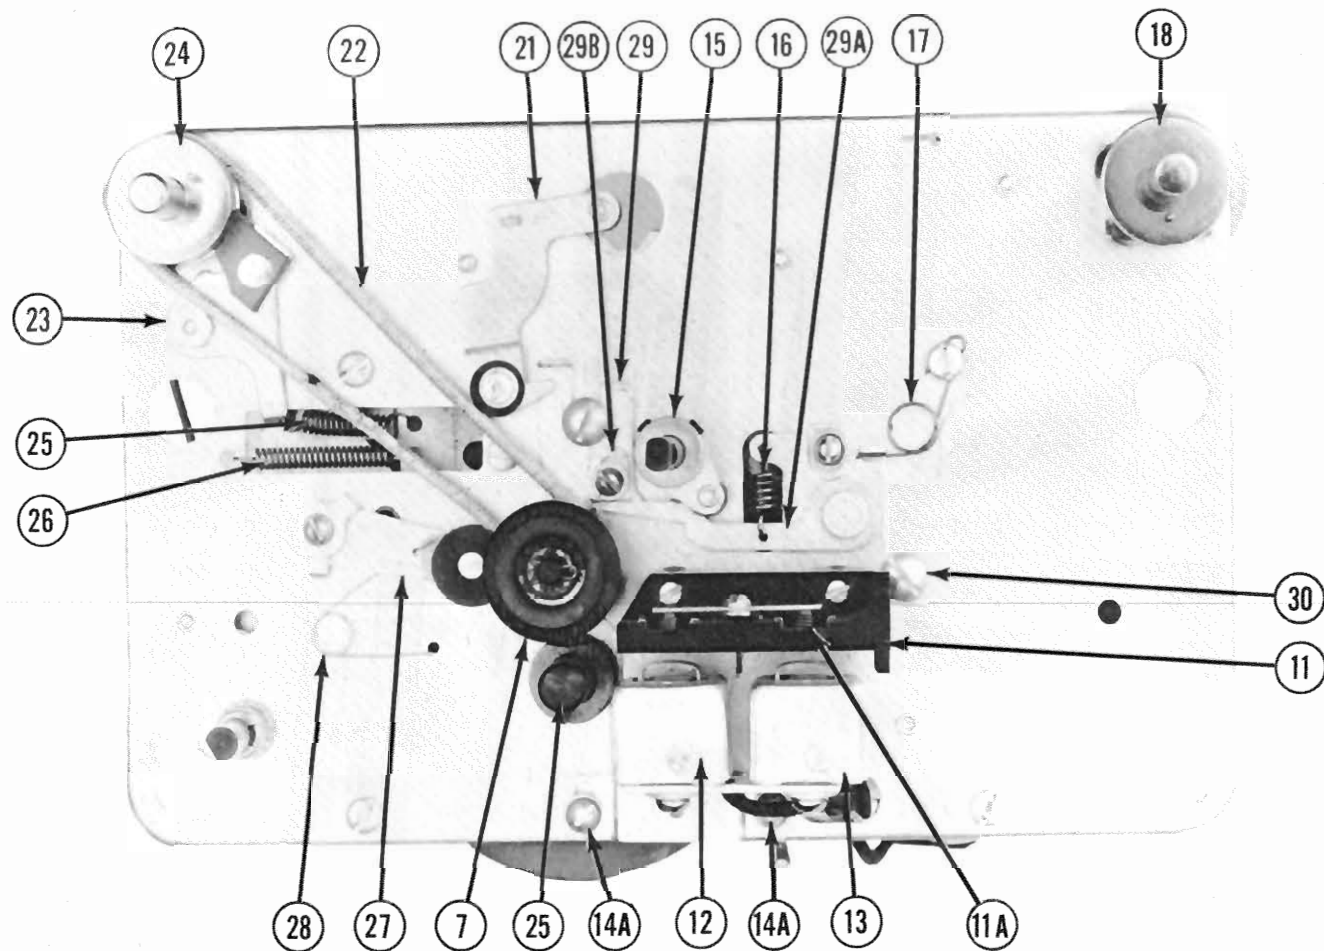

Figure 2
Set the pressure lever (15), see Figure 2, so that it is perpendicular to the pressure arm (29A) when the control knob is in the Record-Playback position. Also adjust the arm adjusting plate (29B) so it will clear the pressure arm (29A) by 1/64" when in this position.